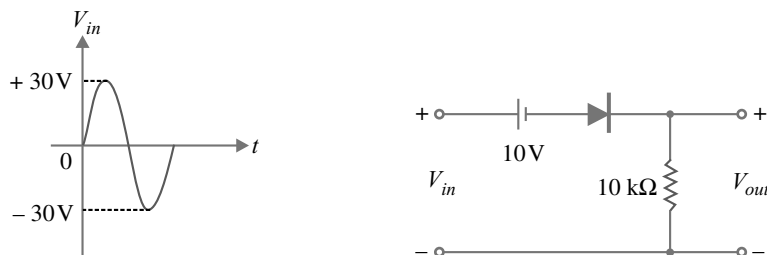

Fig. 16.42
**Example 16.17.** For the input wave to the clipping circuit shown in Fig. 16.42, find the output waveform.